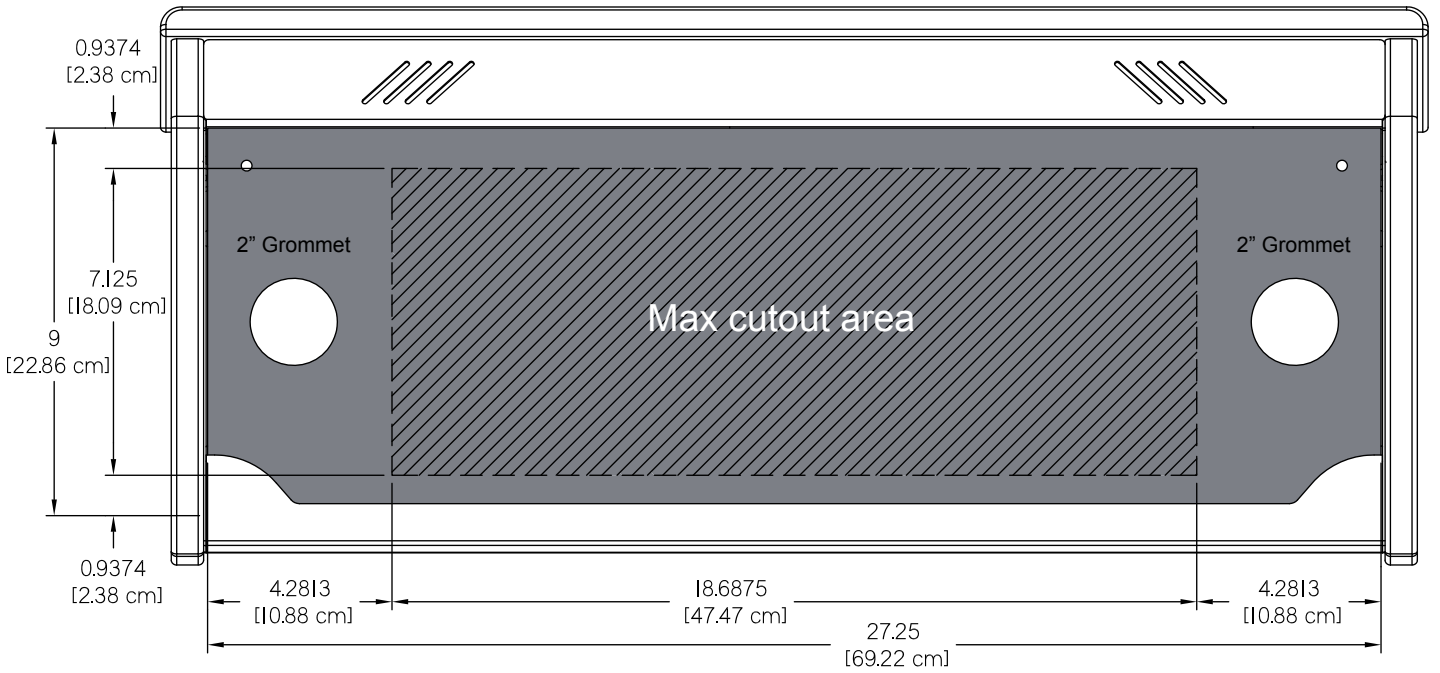

Figure 6.2
- A. Identify all location(s) and sizes for controller(s) or electronics while making sure all devices fit within the maximum cutout space available in the overbridge panel. See **Figure 6.2, 6.3. See specifications for cutout clearances.**